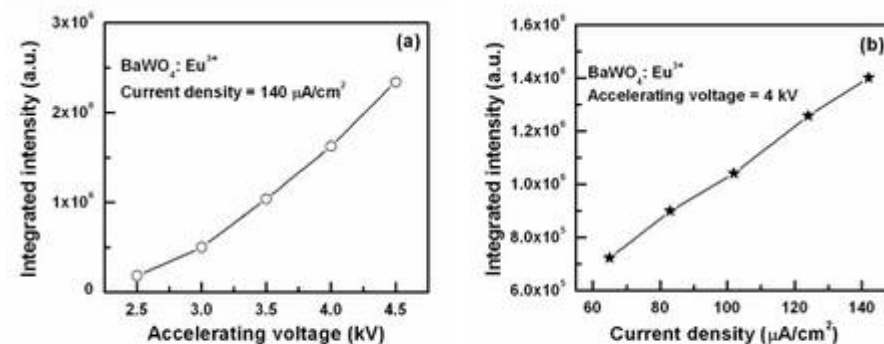

Figure 4. Integrated CL intensity of BaWO₄: Eu³⁺ phosphor as a function of (a) accelerating voltage and (b) current density.
Fig. 4 Typical TEM images of the LaOF:RE^{3+} ($\text{RE} = \text{Eu}^{3+}, \text{Ho}^{3+}, \text{Tm}^{3+}, \text{Dy}^{3+}, \text{Sm}^{3+}$) phosphors with (A) and without (B) oleic acid treatment. The